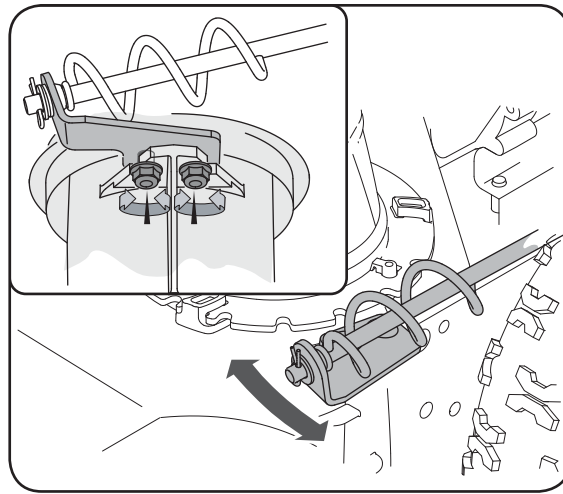

Figure 5-9 - Models with standard chute.
1. Loosen the two nuts which secure the chute bracket and reposition it slightly. See Figure 5-9.